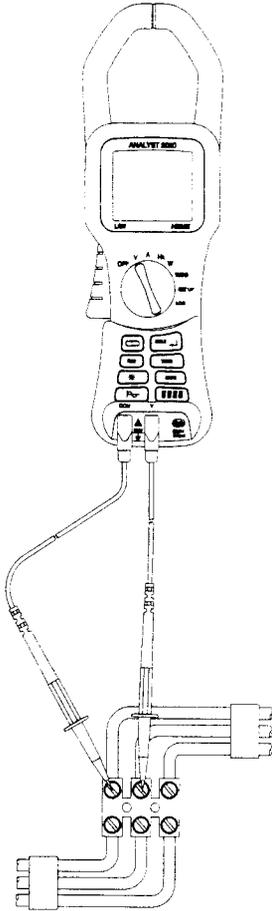

Fig. 2
- Apply the test leads to the circuit under test and read the displayed voltage. See Fig. 2.
- To measure the frequency of the voltage supply apply the test leads to the circuit as shown in Fig. 2 and read the display.